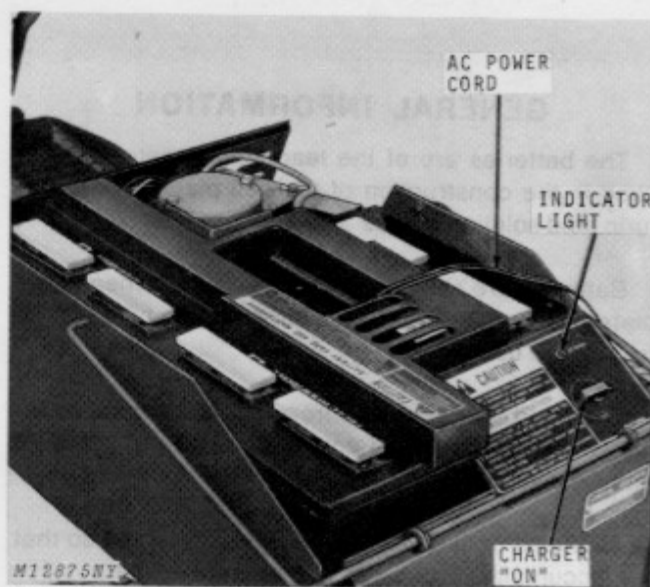

Fig. 4-Charging the Batteries
Remove the AC power cord from the storage compartment between the batteries and plug it into a grounded alternating current (AC) outlet supplying 105 to 130 volts. Turn charger knob to the "ON" position, Fig. 4.